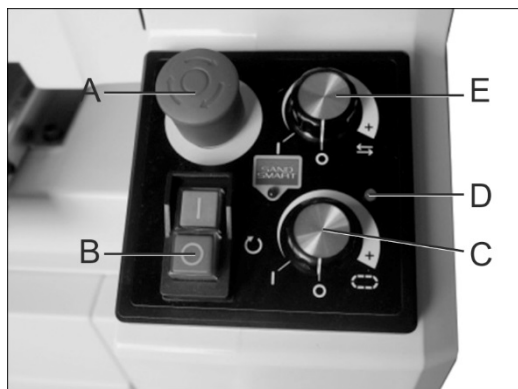

Figure 9-1: control panel
2. Disengage emergency stop by clockwise turning the red button or pulling it up (A, Figure 9-1).
Note: Error Indicator (D, Figure 9-1) may flash continuously to remind that the conveyor speed dial is **NOT** set at **OFF** position before starting the operation. The control system is designed to prevent the conveyor belt from being activating accidentally. If conveyor belt motor doesn't work, turn the dial (C, Figure 9-1) to OFF and re-dial.
The sander can be used with sanding drum in fixed position or in oscillation mode. The top dial (Figure 9-1, E) activates oscillation mode.